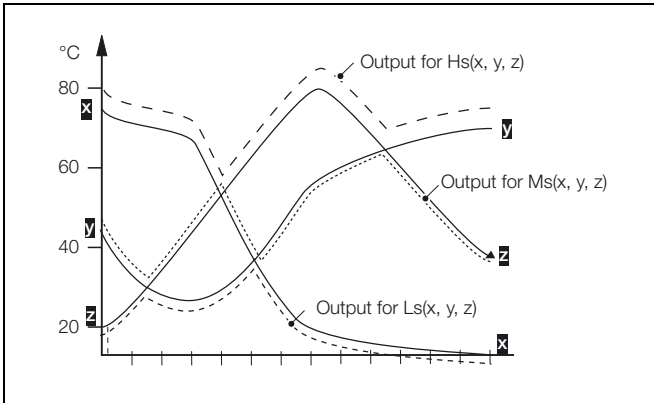

Fig. 2.9 High, Median and Low Select
2.9.6 Switch Functions – Figs. 2.9 and 2.10
The switch functions, HS (High Select), MS (Median Select) and LS (Low Select) are used to select between the highest, median and lowest of three analog values – see Fig. 2.9.